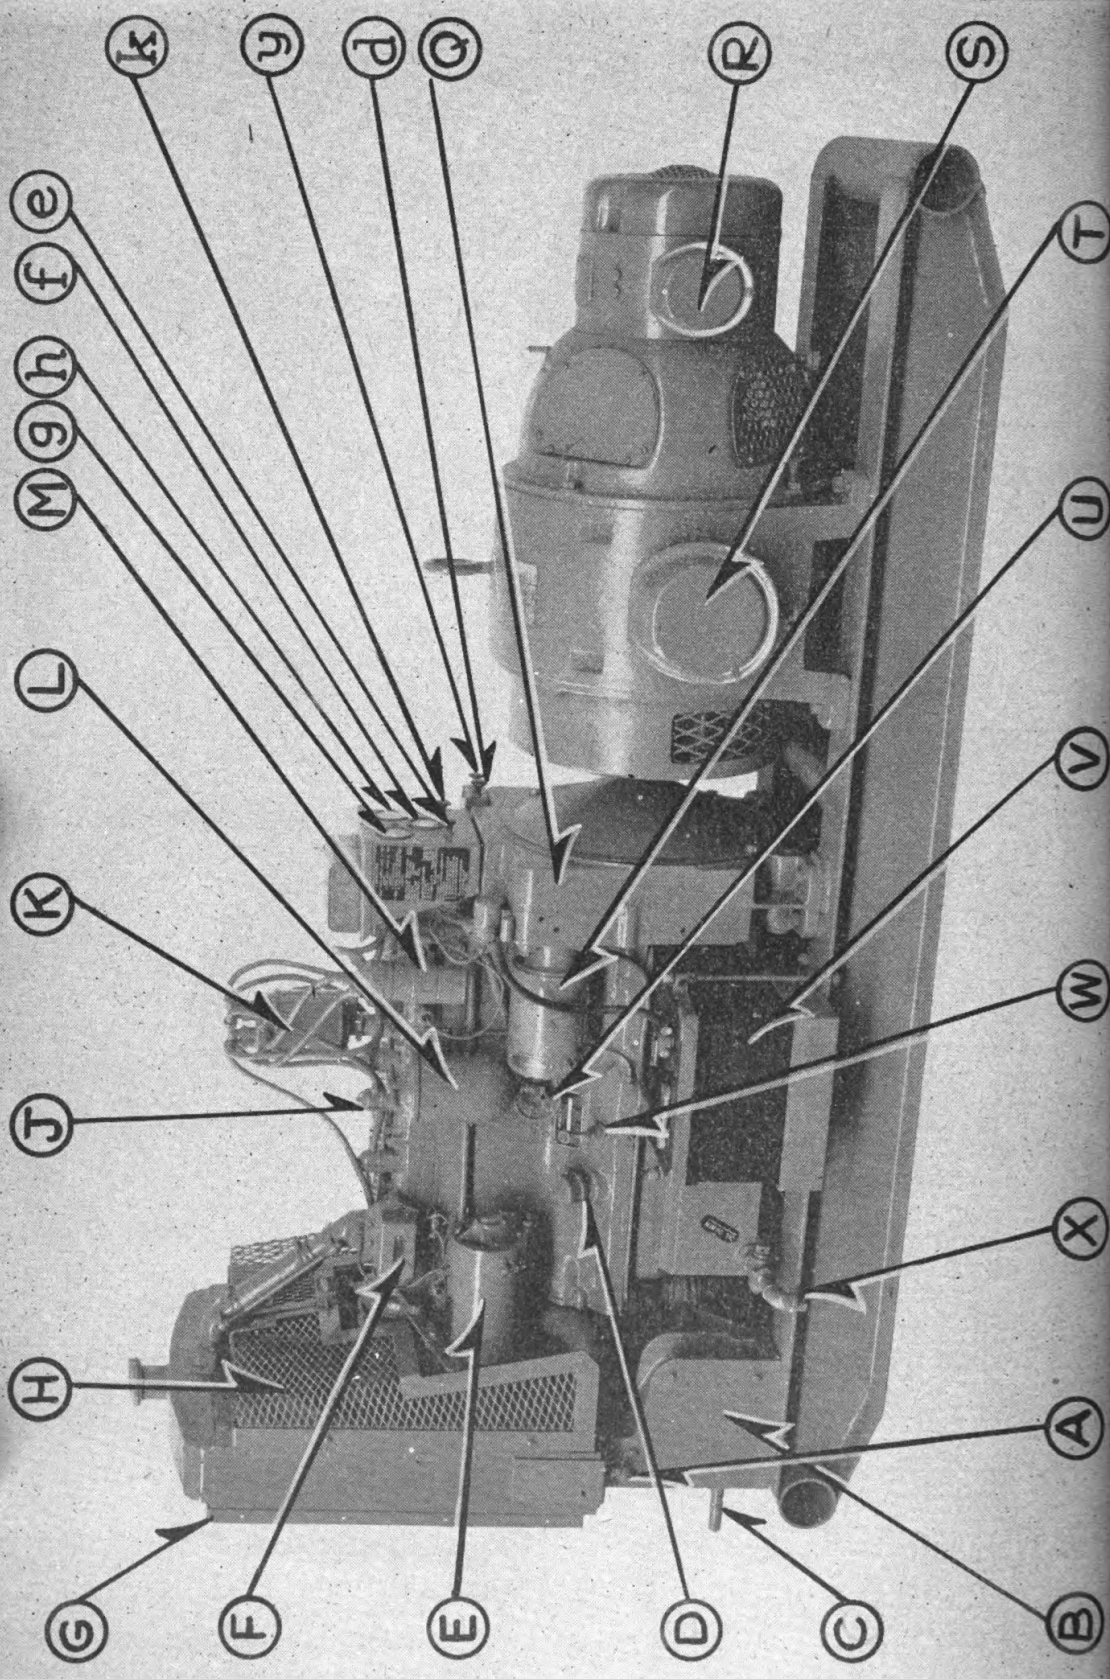

Figure 2. Power Unit PE-79-F, right side.
LEGEND FOR FIGURE 2.
(2) **OILING SYSTEM.** Main, connecting rod, and camshaft bearings are lubricated by oil pressure supplied by a gear-type oil pump. Other internal parts are spray-lubricated. An oil filter (fig. 2 [L]) is used to remove foreign matter from the oil as it circulates through the engine pressure system. A bayonet-type oil level gauge is mounted on the right side of the engine (fig. 2 [W]).
(4) **IGNITION SYSTEM.** A battery ignition system is used. A distributor is mounted at the top of the engine, and is gear-driven from the engine camshaft. This unit includes the breaker mechanism, capacitor (condenser), and rotor assembly, all three parts contained within the distributor casing. A high-tension coil (fig. 2 [M]) is used to generate the high voltage. The distributor (fig. 2 [K]), spark plugs (fig. 2 [J]), and ignition wiring are shielded to minimize radio interference.
(5) **SIX-VOLT BATTERY SYSTEM.** The belt-driven charging generator (fig. 2 [E]) supplies current to recharge the 6-volt battery (fig. 2 [V]) located on the right side of the engine. The storage battery also supplies power for electric starting and for ignition during the starting period. A combination voltage regulator (fig. 2 [F]) and reverse-current relay controls the charging rate and the opening and closing of the charging circuit. The starting motor (fig. 2 [T]) is equipped with a Bendix drive gear which automatically engages the flywheel ring gear when the starting button (fig. 2 [K]) is pressed.